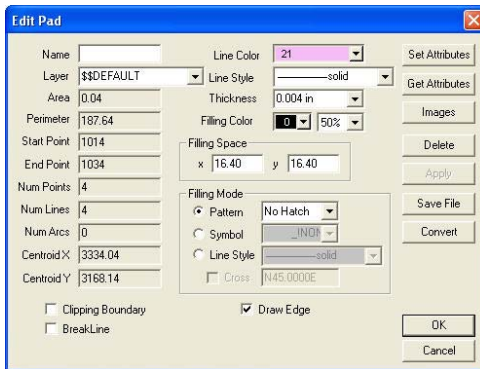

Figure 13-108. Edit Pad Dialog Box
4. Continue locating points until all of the points for the pad are chosen. When the start point is selected again, the pad closes and the **Edit Pad** dialog box appears (Figure 13-108).